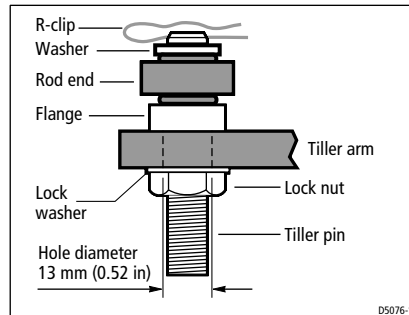

Figure 6: Attaching the push rod to the tiller arm
- insert the tiller pin through the tiller arm hole, so the flange remains above the arm (see *Figure 6*)
- secure with the supplied washer and R-clip (see *Figure 6*)